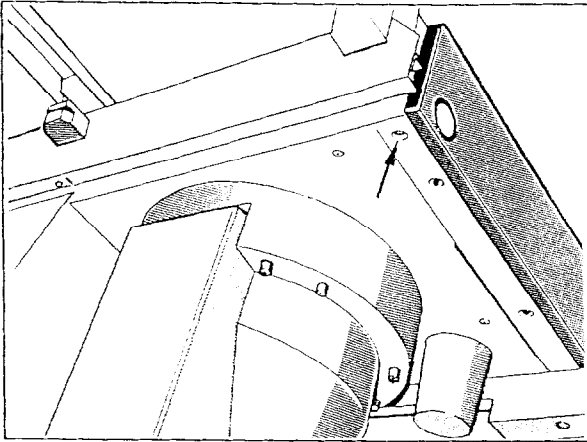

Fig. 1
- Remove the screw (↗/Fig.1) under the Emergency Shutdown switch .